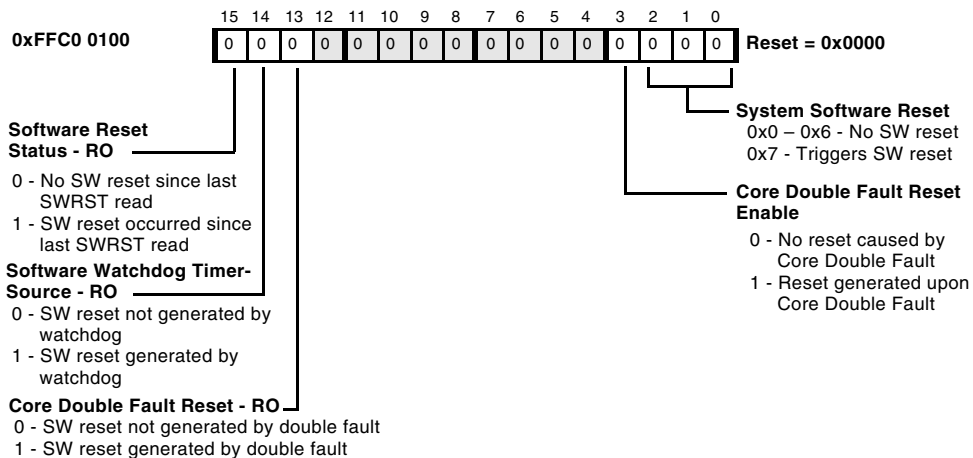

Figure 3-3. Software Reset Register
- By setting the System Software Reset field in the Software Reset register (see Figure 3-3 on page 3-16)